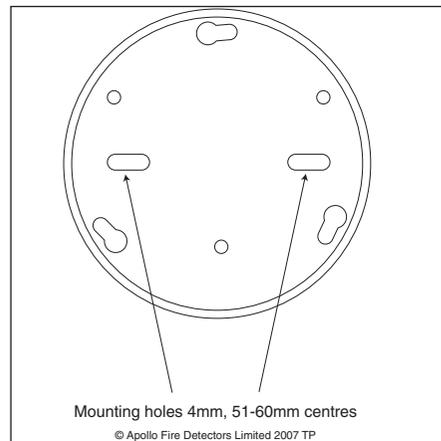

Fig. 1 Mounting Details
2. Fix the mounting plate (shown in **Fig. 1**) to the wall using suitable fixings and fasteners. Ensure the fasteners are flush with the mounting plate to avoid the risk of damaging the battery PCB.